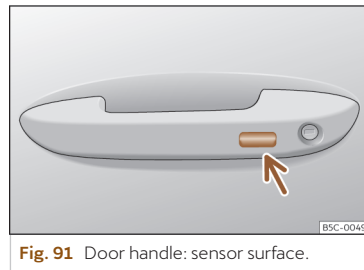

Fig. 91 Door handle: sensor surface.
- **OR:** using the Keyless Access system (only locking): Press and hold the locking sensor surface >>> **Fig. 91** (arrow) on the door handle for several seconds to close the windows and the sunroof. If you stop touching the sensing surface, the locking function is interrupted.
Press and hold the locking sensor surface >>> Fig. 91 (arrow) on the door handle to close the sunroof. If you stop touching the sensing surface, the locking function is interrupted.